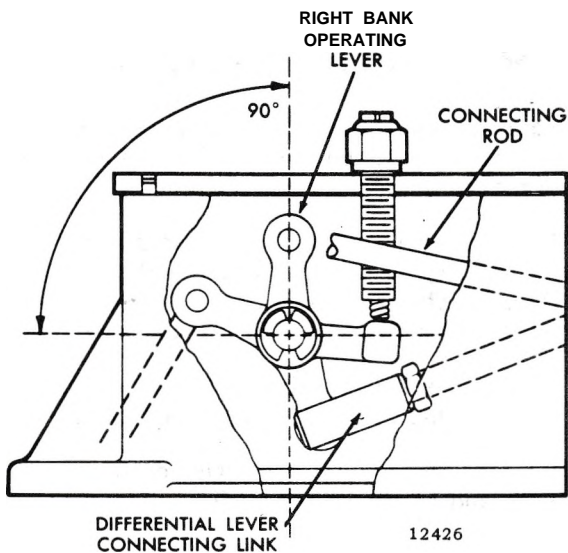

Fig. 3 - Operating Lever in Position (Current Governor)
4. **On current governors**, position the right bank operating lever (Fig. 3) with the arm that carries the connecting rod in the vertical position. Then, set the No. 1R and No. 1L injector rack control levers, as follows: